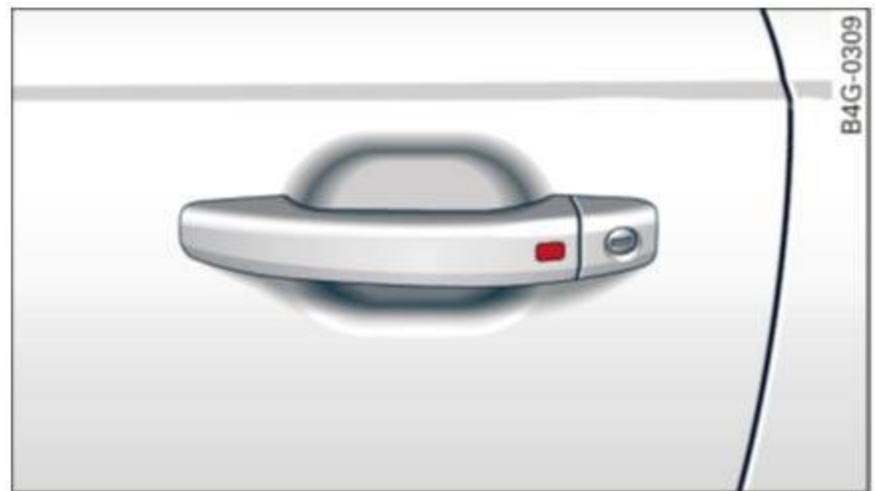

Fig. 23 Door handle: locking the vehicle
- ▶ To lock the vehicle, close the door and touch the sensor in the door handle **once** ⇒ *fig. 23* ⇒ ⚠ in *General description on page 31*. Do not reach inside the door handle.